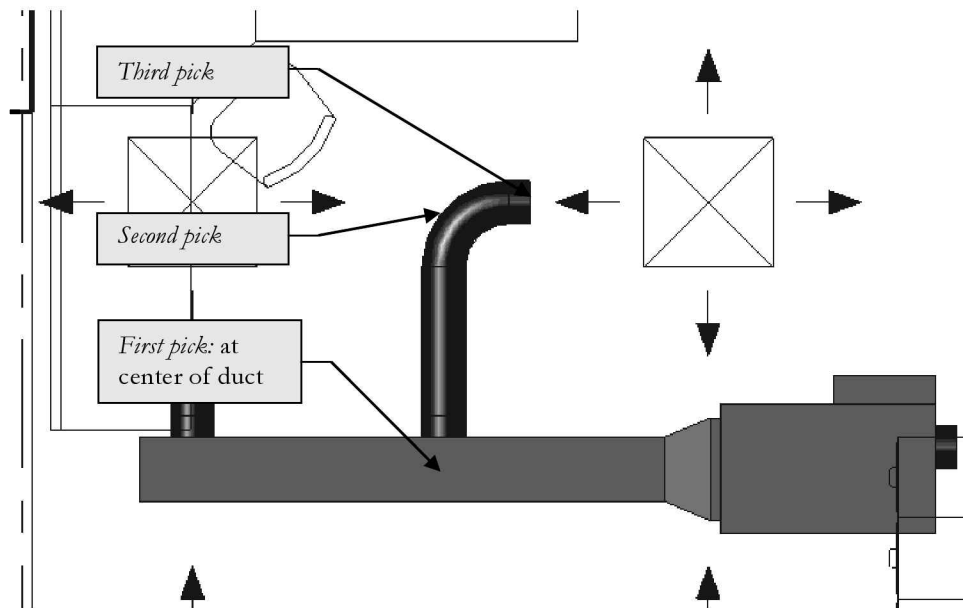

FIGURE 13-4.10 Drawing a branch duct with an elbow
35. Similar to the previous steps, **Draw** an 8" diameter branch duct by picking, approximately, the three points shown in Figure 13-4.10.